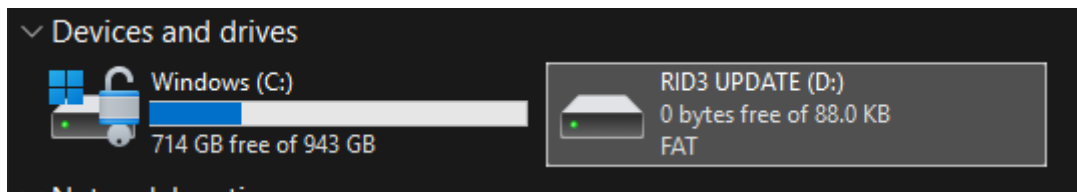

Figure 4 RID module as storage device
9. The RID module should now be visible as a storage device on the PC (see Figure 4).